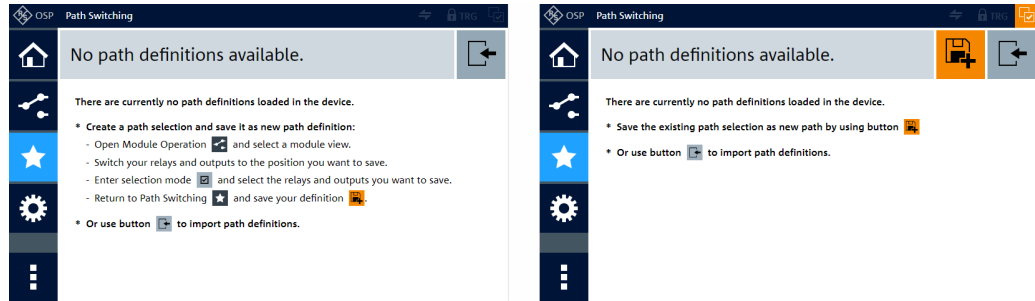

Figure 6-37: Not path definitions available ...
- You see the left-hand dialog in Figure 6-37, when you go to the empty "Path Switching" dialog without having selected anything that allows defining a path. However, you can import path definitions.
- You see the right-hand dialog in Figure 6-37, when you have selected one or more relays or output channels in the "Module Operation" dialog. Optionally, you can also switch some of the selected items. If you now go to the empty "Path Switching" dialog, it allows you saving your selection as a new path definition by using the "Save As New Path" button, as described in "Manage path selection:" on page 210.